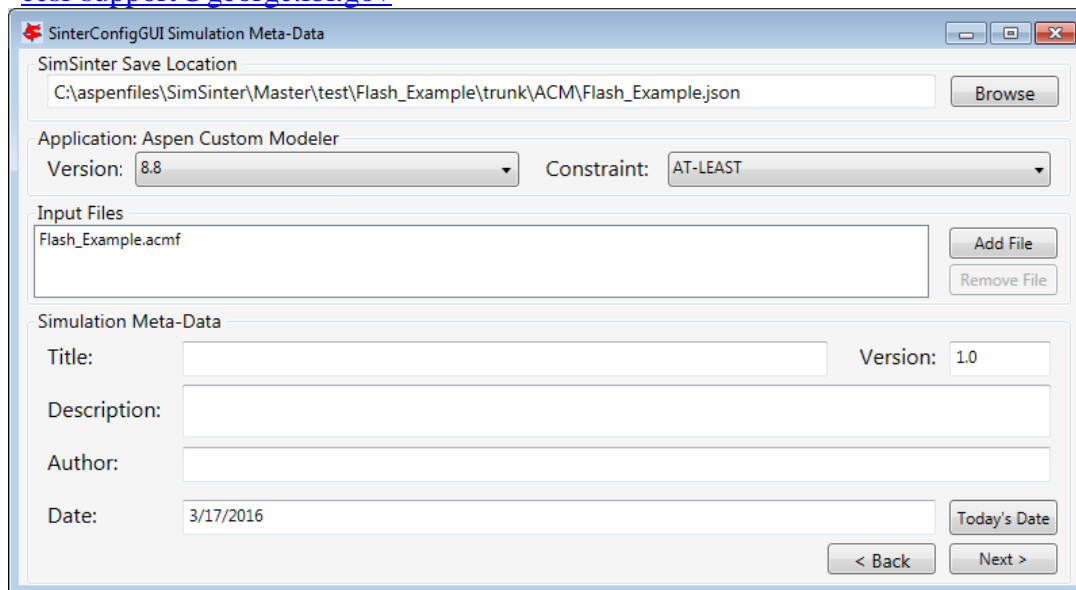

Figure 6: Meta-Data window
7. The SinterConfigGUI Simulation Meta-Data window displays as shown in Figure 6. Also, the Aspen Custom Modeler has started up in the background. This is so the user can observe things about the simulation in question as they work on the configuration file. If you see an error instead, please attempt to debug the issue, or contact CCSI support at ccsi-support@george.lbl.gov
8. If you see the window in Figure 6, SimSinter is working properly and can properly open simulators. If you wish to continue this tutorial, and configure the simulation, please see the tutorial section of the SimSinter User Manual. It includes sections on configuring simulations for Aspen Custom Modeler, Aspen Plus, and Microsoft Excel.